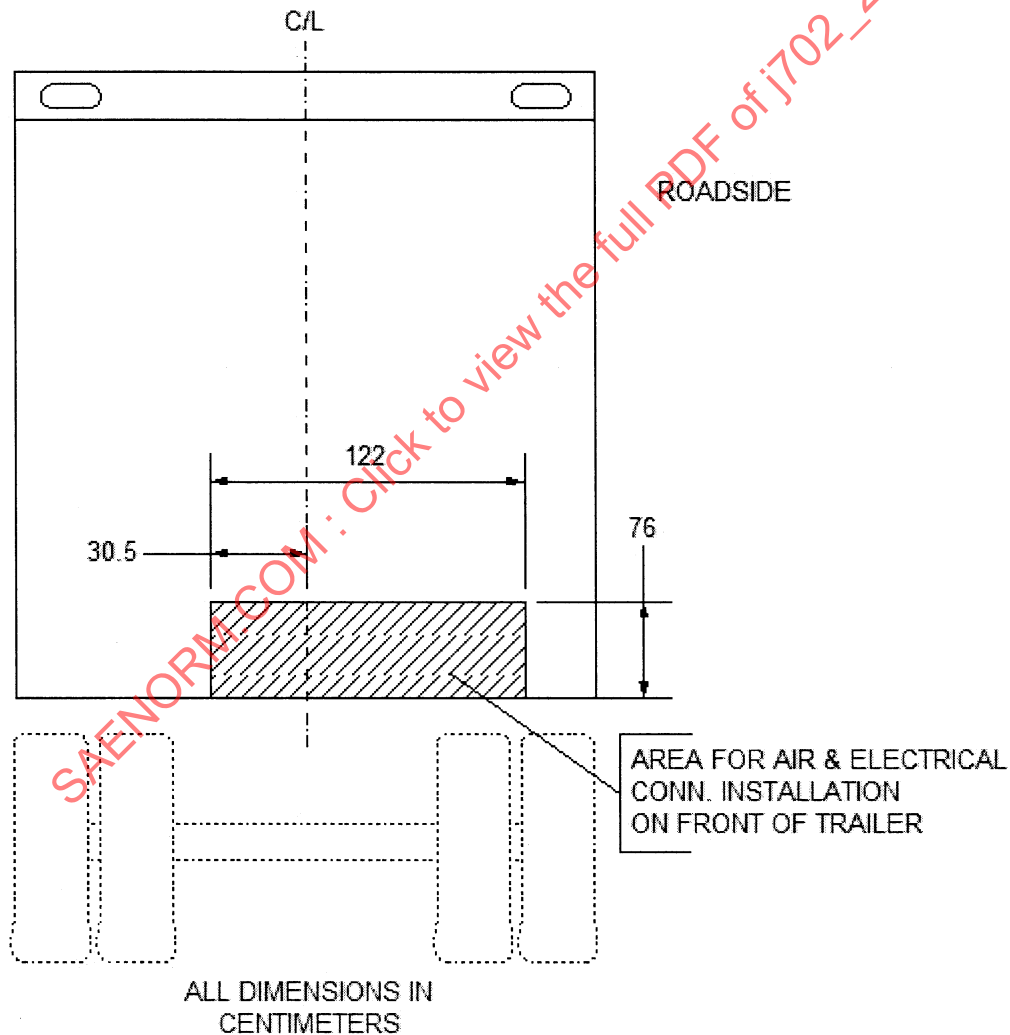

FIGURE 2—FRONT OF TRAILER - RECOMMENDED LOCATION
4.1 Brake Connections—Trailer-mounted air hose couplings should be mounted on the front within the area shown in Figure 2. For ergonomic reasons, connections should be mounted as low and as far roadside as possible.